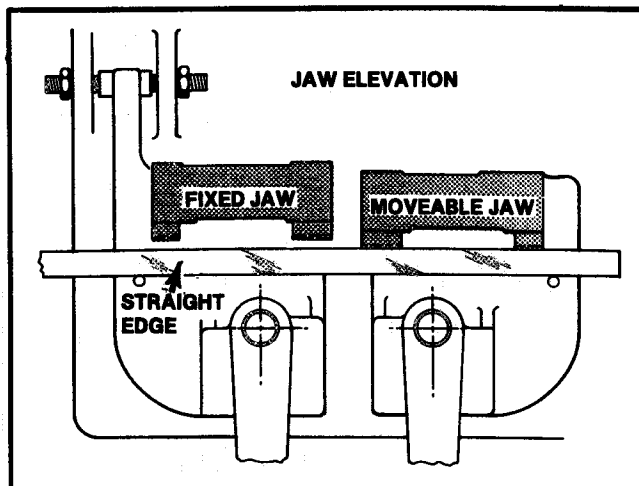

FIG. 16. ELEVATION MISALIGNMENT - FIXED JAW HIGHER THAN MOVEABLE JAW.
- (1) **Elevation.** Check for elevation difference between the two jaws. See Fig. 16.